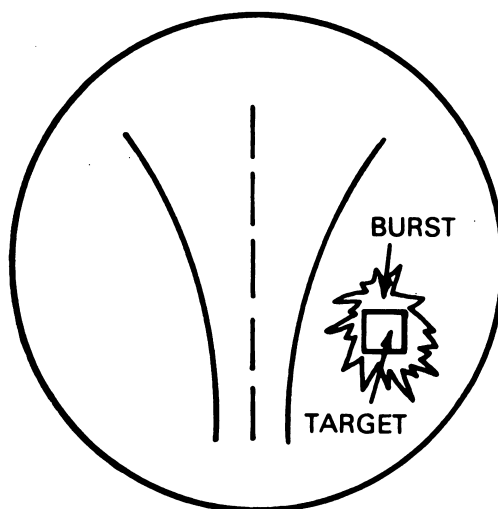

Figure 6b. Shifting center of mass of target.
(3) Move this point onto the center of mass of the target (fig. 6b).